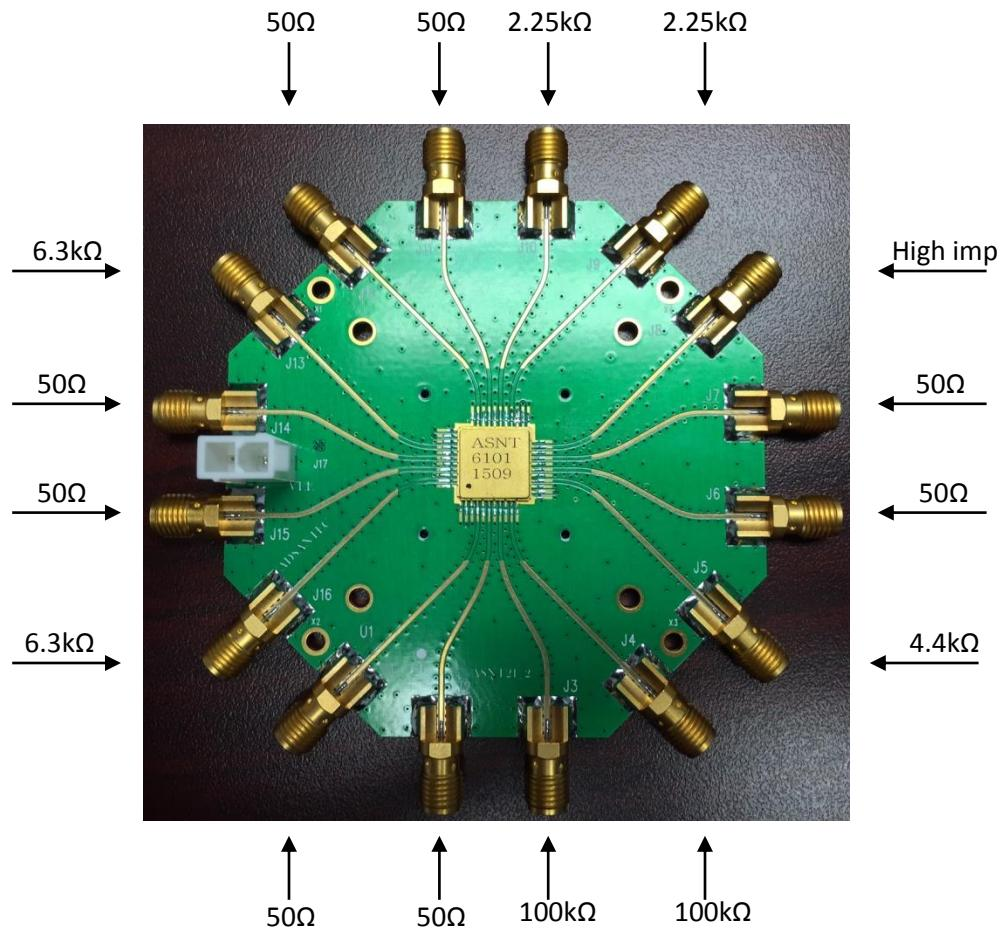

Figure 2. Ohmic check
1. Measure the resistance of all connector pins in reference to VCC (GND), including the power supply VEE (high impedance). **Figure 2** shows the approximate corresponding resistance values for all the board's edge connectors.